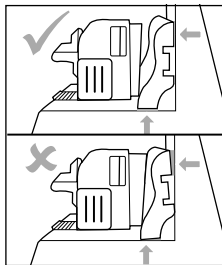

Fig. 9
- ◆ Hold the product firmly with one hand on one of the movable arms **1**. In addition, hold onto skirting boards that do not retain a 90° angle after clamping (see fig. 9).